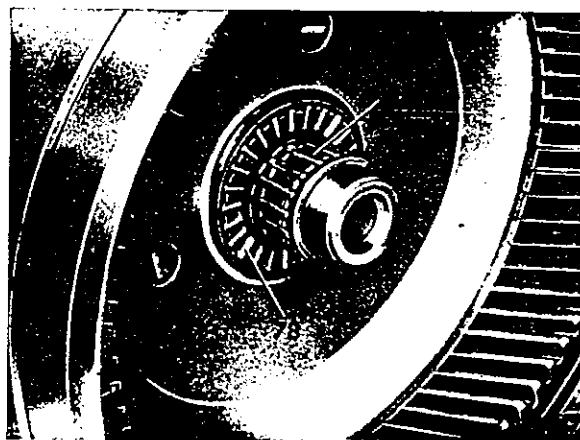

Fig. 34
12 Install axial bearing (78) and radial bearing (79) into gear set, using some grease **Fig. 34**